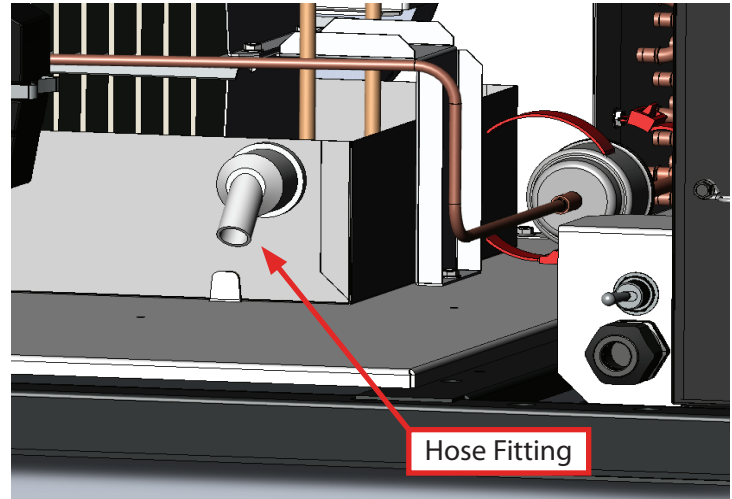

Fig. 1. Back of cabinet with wire grill removed.
2. Remove the rear wire grill. See fig. 1.